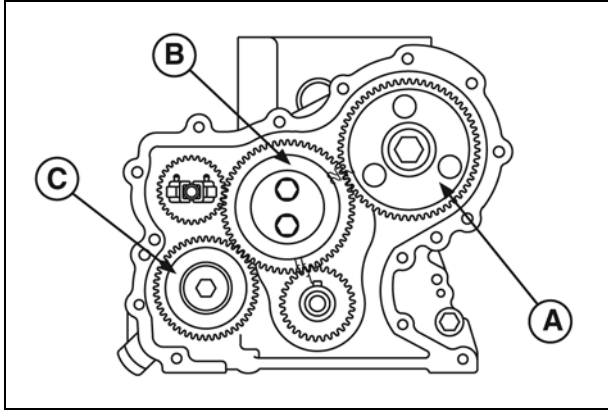

Figure 10
- 11. Remove camshaft timing gear (A, Figure 10).
- 12. Remove idler gear (B).